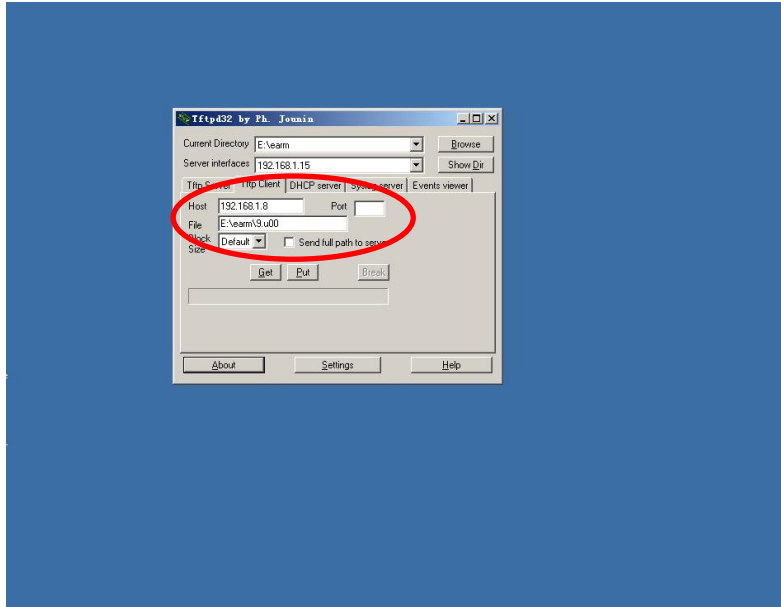

Figure 2.2
2.2 First choose TFTP CLIENT Set the HOST with DSC IP address (192.168.1.8), Under FILE, enter the directory and the file name. Note: You must include the extension with the file name. See Figure 2.2.